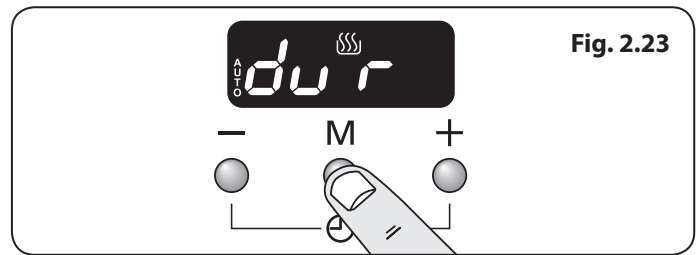

Fig. 2.23
1. Press the mode [M] button until the display flashes (dur) (**Fig. 2.23**). Then set the 'cook period' using the [+] or [-] buttons.